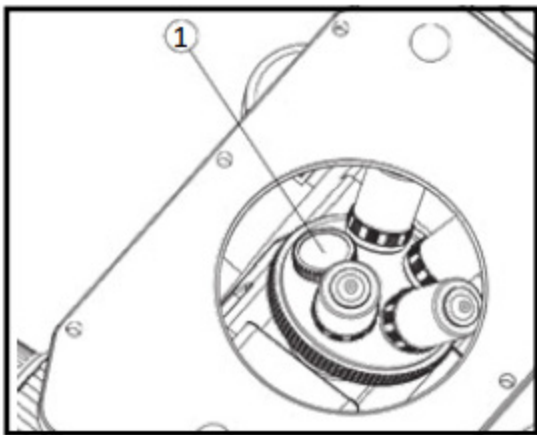

Fig. 7
3. Cover any unused positions on the nosepiece with a dust cap (Fig 7) (1) to prevent contamination by dust and dirt.